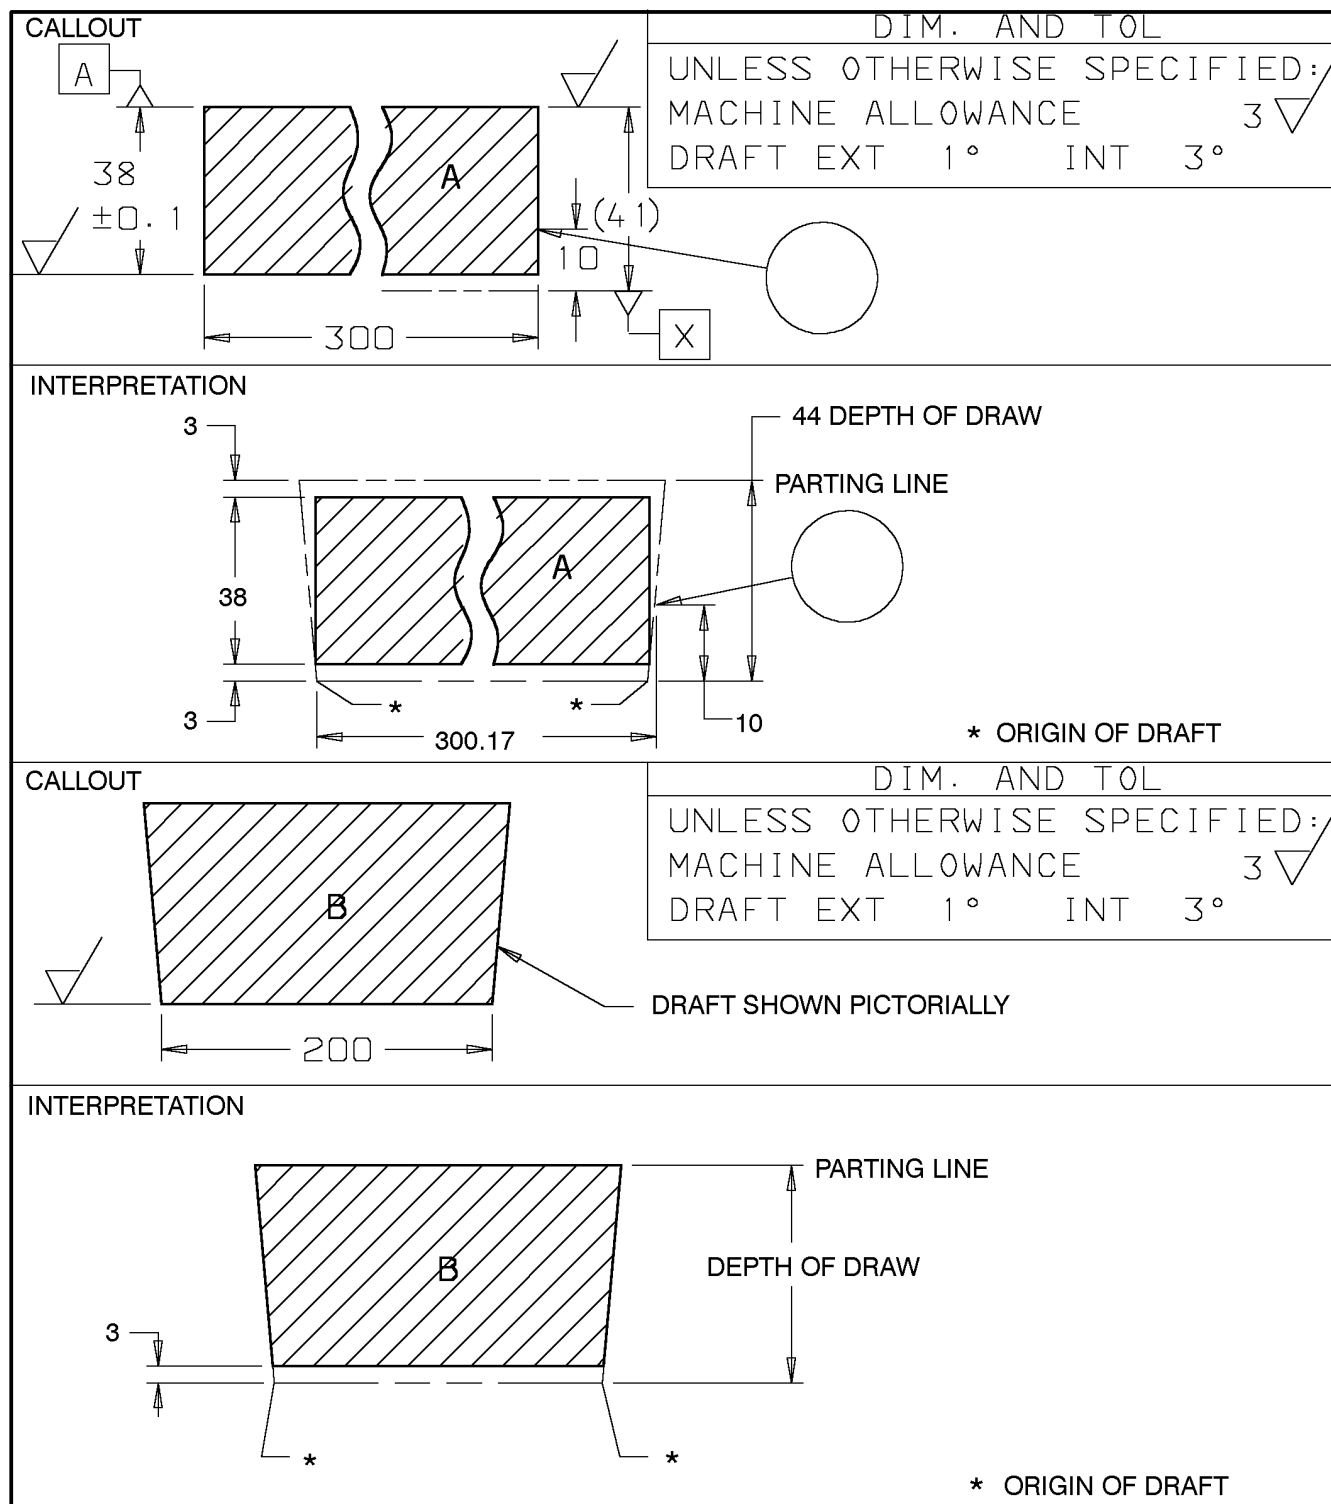

Figure 25 - Parting Location - Origin of Draft
**11.17** Figure 25 illustrates use of datum targets and dimensioned phantom lines to control parting location and direction of draft.